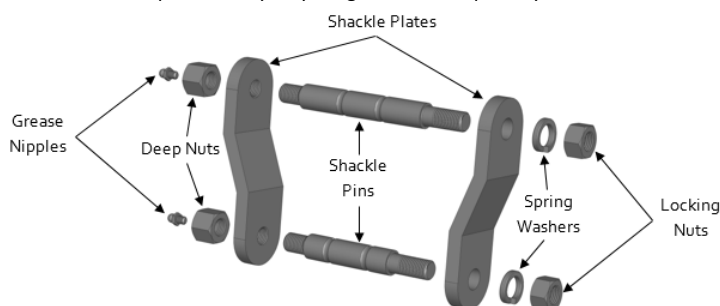

Figure 1: Diagram of rear swing shackle
- Screw and tighten the shackle pins into the threaded holes in the shackle plates as per figure 1;
- Install the other shackle plate, spring washers and screw the locking nuts on the pins as per figure 1 and figure 4 but don't fully tighten them at this stage;